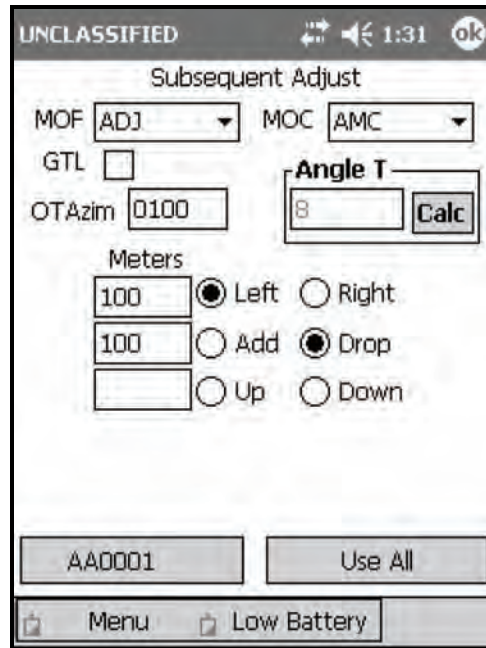

Figure 18-7. Subsequent Adjust screen.
- (18) Select the <Target> button.
- (19) The <Target> screen displays.
- (20) Select Subs Adjust.
- (21) The Subsequent Adjust screen displays. The Subsequent Adjust screen (Figure 18-7) enables the operator to make gun adjustments. Table 18-6 displays the data fields for this screen.